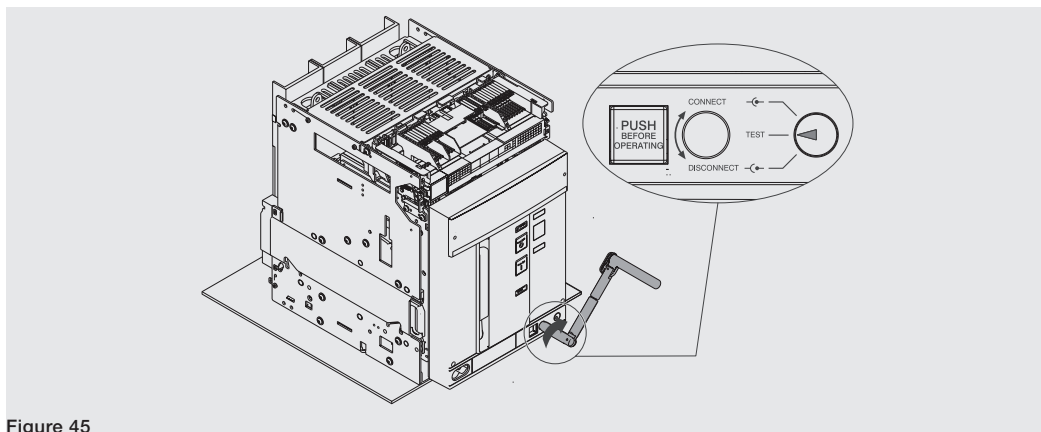

Figure 45
9. Turn the crank clockwise until the pushbutton comes out and the indicator shows that the circuit-breaker is in **TEST** position. See Figure 45.